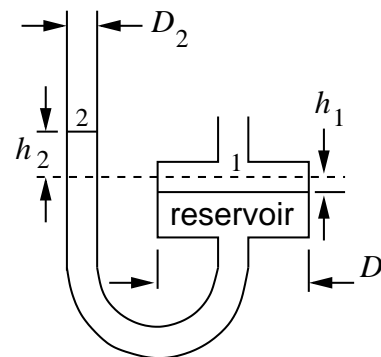

Figure 3: Reservoir manometer.
3. (10 pts) A “reservoir”-type manometer (Fig. 3) is to be calibrated for use with a fluid of specific gravity  $S_G$ . The vertical tube diameter (at section 2) is  $D_2$ , while the reservoir diameter (at section 1) is  $D_1$ , where  $D_1 > D_2$ . Calculate the deflection distance  $h_2$  on the vertical tube per  $h_w$  of applied water pressure difference. That is, find the ratio of  $h_2$  to  $h_w$ , the latter being what the *analogous* reading would be in a standard (simple) water U-tube manometer. (The dashed line is the equilibrium state of the instrument when no pressure is applied.) Assume that some amount of manometer fluid always remains with the reservoir.